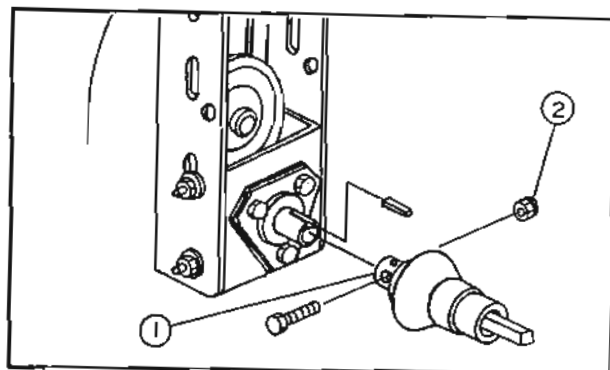

FIGURE 12
- c) Remove paint from reduction shaft. Install a 1/4" x 1/4" x 1 1/4" key in the reduction shaft keyway. Slide driveline yoke (fig.12, item 1) over reduction shaft.
- d) Secure yoke to reduction shaft with a 1/4" x 2 1/2" bolt and nylon lock nut (fig.12, item 2). Securely tighten the bolt and the 3/8" x 3/8" allen set screw over key in yoke.